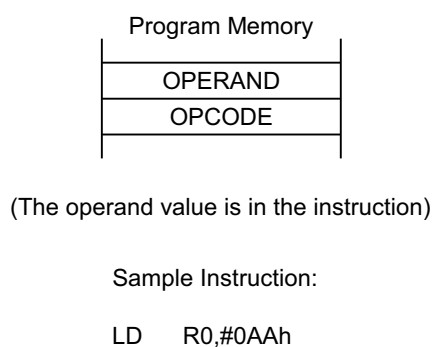

Figure 41. Immediate Addressing
In Immediate (IM) Mode, the operand value used in the instruction is the value supplied in the operand field itself. The operand can be one byte or one word in length, depending on the instruction used. Immediate Addressing Mode is useful for loading constant values into registers. See Figure 41.